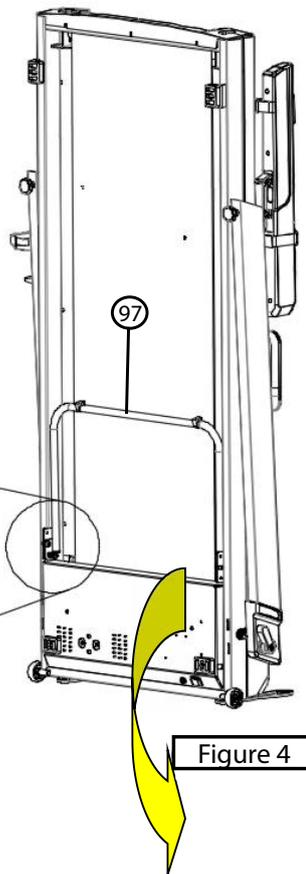

Figure 4
4. Lower the rear support welds (97) until the spring thread latch (101) snaps into place with a soud (figure 4).